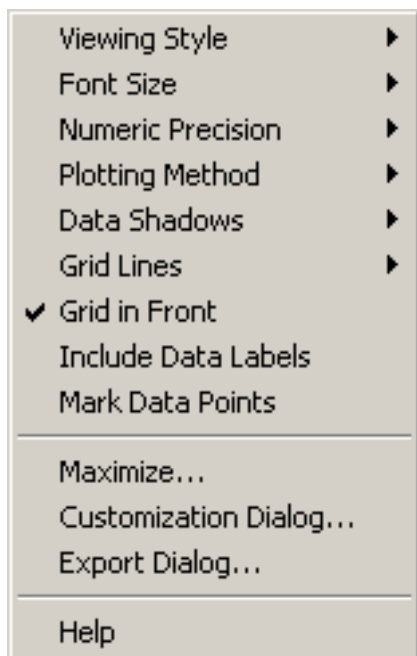
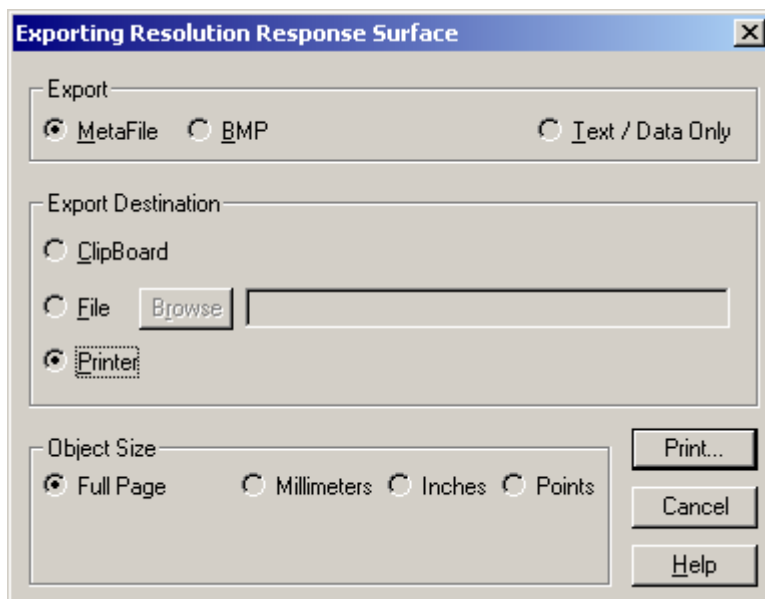

Figure 12. Response Surface context sensitive menu.
Figure 17. Exporting Resolution Response Surface window.
- To print only the response surface, right click on the response surface to bring up the context sensitive menu (Figure 12) and click on 'Export Dialog' on the menu to open the Exporting Resolution Response Surface window (Figure 17).